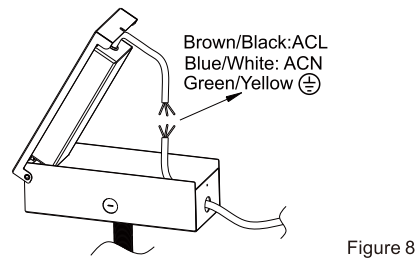

Figure 8
8. Connect the led fixture to local power with necessary connector protection measures. (Figure 8)